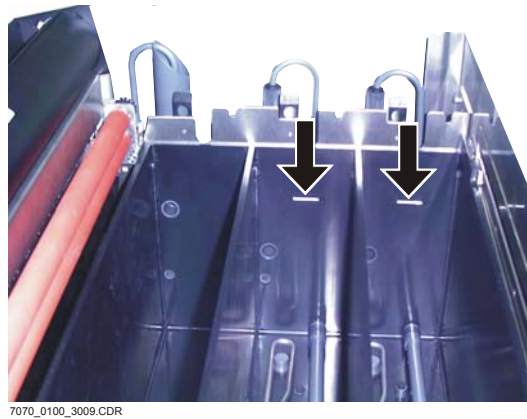

Fig. 5
- Fill the fixer tank with ready-to-use fixer up to the marker line (Fig. 5).